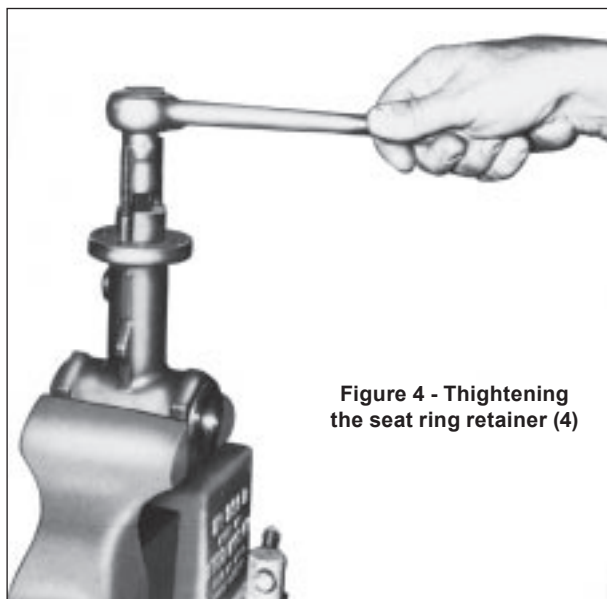

Figure 4 - Tightening the seat ring retainer (4)
- Carefully apply Never Seez grease (or equivalent) to threads and bottom of retainer (4). With a 9/16" or 14 mm piece of hex stock and a wrench, torque the retainer to 59 ft-lbs (8 daN.m) if a graphite gasket st. st. reinforced, or to 40 ft-lbs (5,5 daN.m) if a glass filled PTFE gasket (See Figure 4).